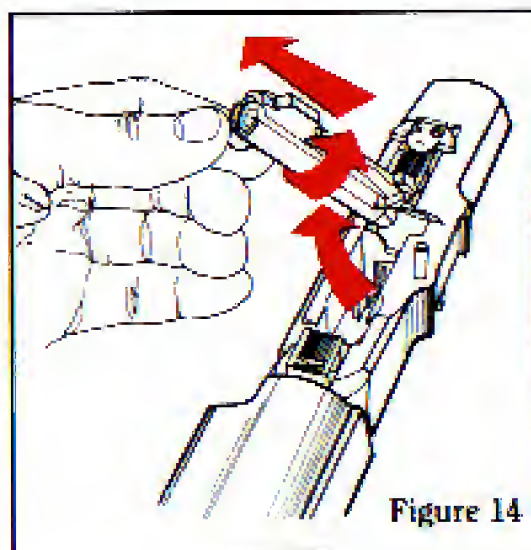

Figure 14
10. Pull the bolt forward until it can be pivoted out of receiver. Align firing pin projection with slot in lower receiver bridge and remove bolt from receiver (See Fig. 14). **NOTE:** Bolt can be removed from receiver with ejector/bolt stop in place, but bolt cannot be installed with ejector/bolt stop in place.